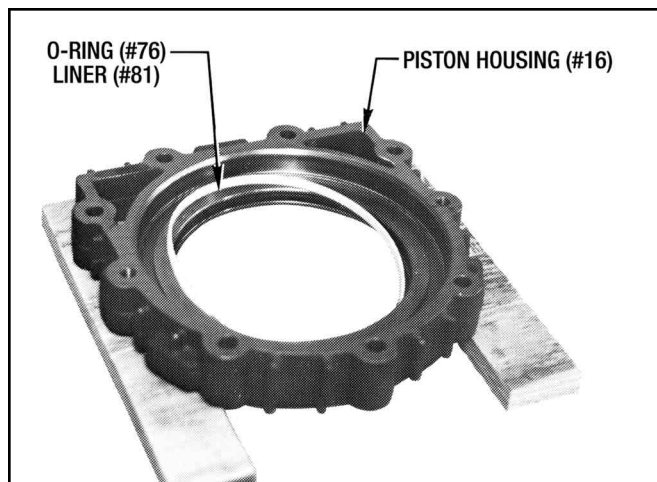

Figure 7.5 - Piston Housing
4. Remove O-Ring (#76) and Liner (#81) from Piston Housing (#16) (See Figure 7-5).